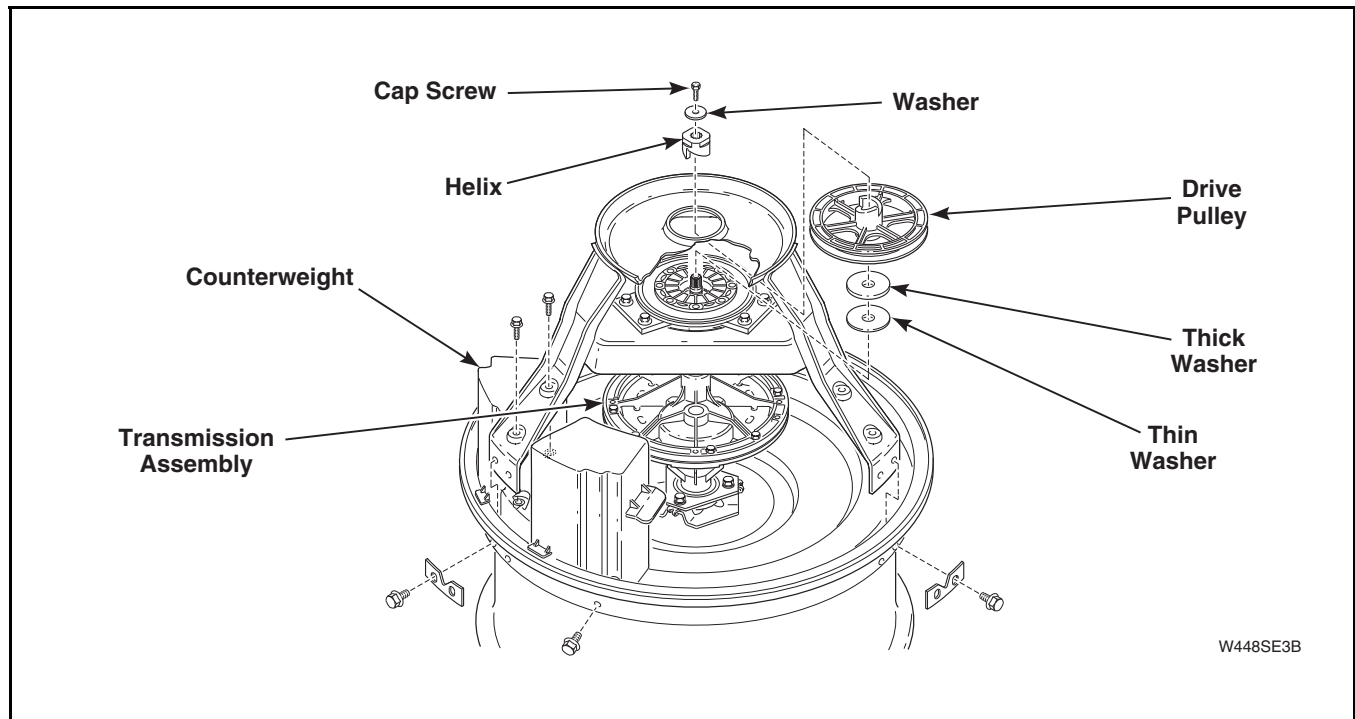
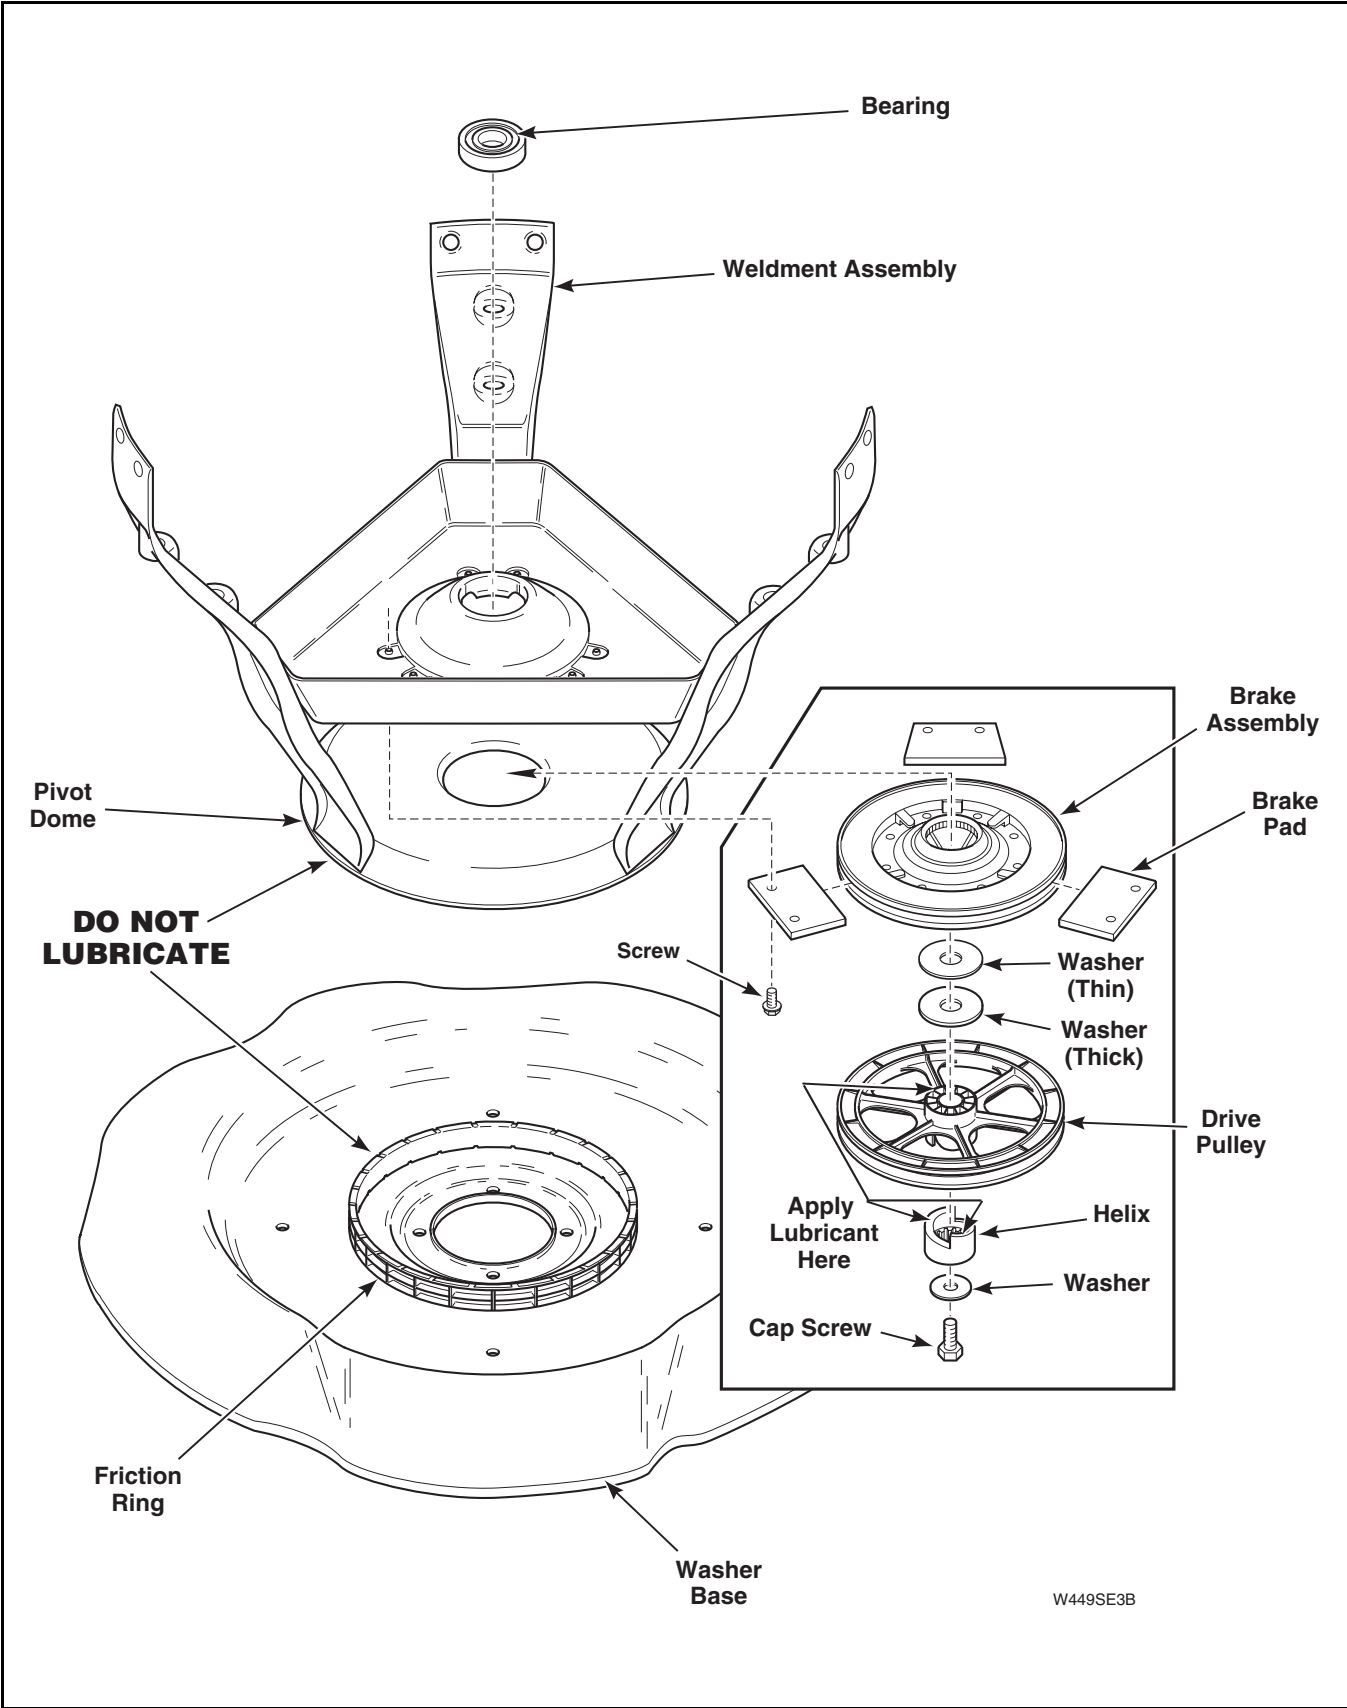

Figure 69
Figure 70
y. Loosen hose clamp and remove tub-to-pump hose from bottom of outer tub. Refer to *Figure 69*.
- Remove screw, washer and helix holding drive pulley to input shaft and transmission assembly. Refer to *Figure 69*.
NOTE: When reinstalling pulley, place a small amount of lubricant on top side of the drive pulley that will be contacting large flat washers. Refer to *Figure 70* for assembly sequence. Lubricate helix ramps and bore with a small amount of lubricant. Refer to *Figure 70*.
- n. Remove screws holding three brake pads and brake assembly to weldment assembly. Refer to *Figure 70*. Then remove brake assembly and pads off bottom of weldment assembly.
NOTE: When reinstalling pulley, place a small amount of lubricant on top side of the drive pulley that will be contacting large flat washers. Refer to *Figure 69* for assembly sequence. Lubricate helix ramps and bore with a small amount of lubricant. Refer to *Figure 70*.
- Remove screws holding three brake pads and brake assembly to weldment assembly. Refer to *Figure 70*. Then remove brake assembly and pads off bottom of weldment assembly.
- q. Remove screws and lockwashers holding counterweight and each support leg to outer tub. Refer to *Figure 69*. Then lift transmission, weldment assembly and counterweight off tub.